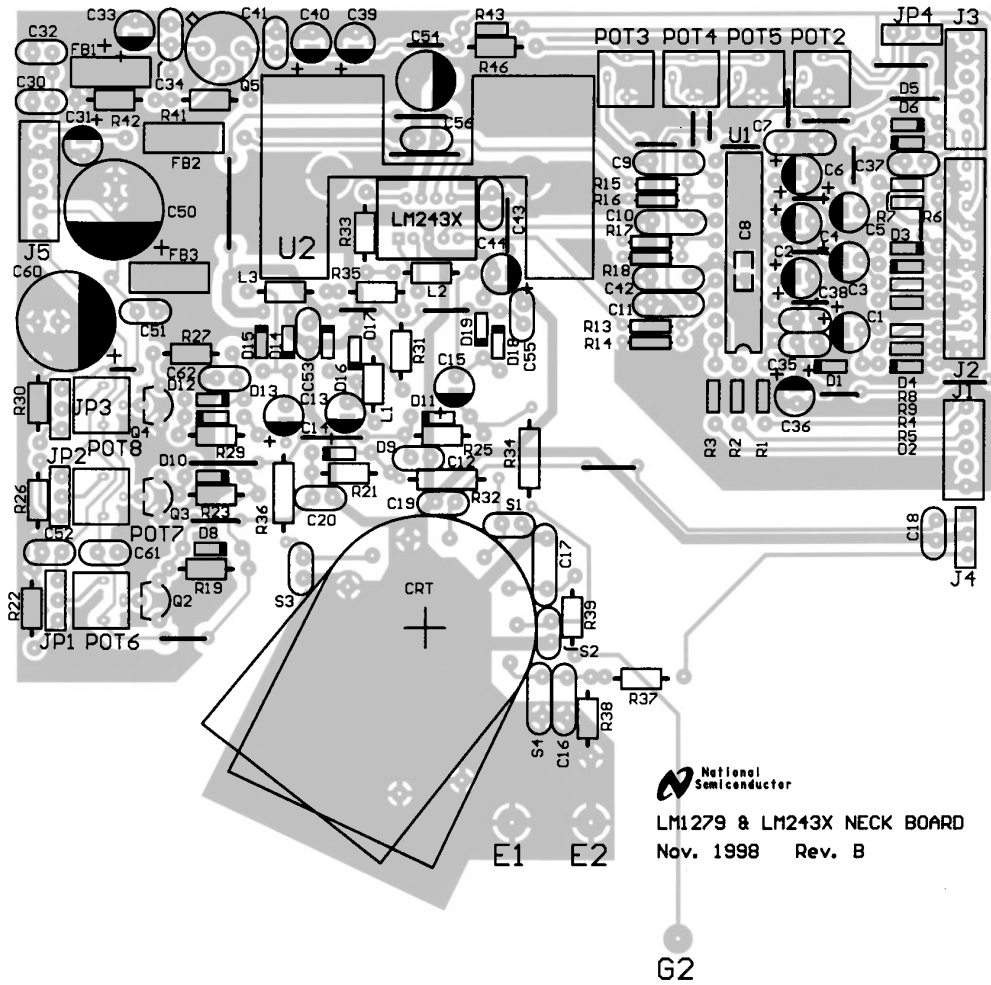

FIGURE 11. LM1279/243X Demo Board Layout
It is very important that the tab of the heatsink is connected to PCB ground. The single ground pin does not provide an adequate return path at high frequencies. The ground connection can be made using the heatsink. The NSC LM1279 & LM243X (Nov. 1998, Rev. B) demo board, shown in Figure 11 and Figure 12, provides a good example of how this can be done. A Thermalloy 6698B heatsink is used in the demo
*Figure 11* shows routing and component placement on the NSC LM1279/243X demonstration board. The schematic of the board is shown in *Figure 10*. This board provides a good example of a layout that can be used as a guide for future layouts. Note the location of the following components: